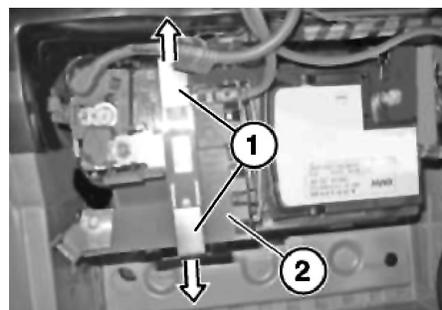

Fig. 3 Power distributor removal
- c. Disconnect locking brackets (1) by pressing downward, then remove power distributor (2), **Fig. 3**.
- a. Install power distributor (2) and clip locking brackets (1), **Fig. 3**.